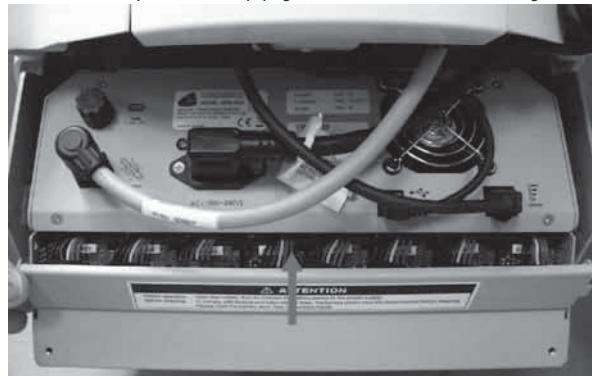

Figure 8: Battery Connector Access Panel - Close
- Rotate the Battery Connector Access Panel back up, pushing until the top is firmly seated against the case as shown in Figure 8. Re-install the screws on sides of power supply that hold the Battery Connector Access Panel.